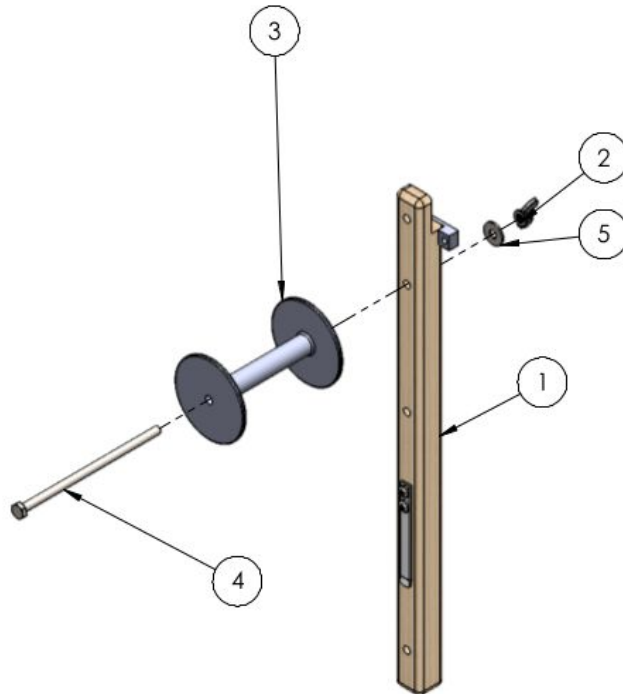

Figure 11 – Attach Spool to Spoke with clip
- 2) Bolt it in place from the front to the back and secure it with a flat washer and hex nut. Tighten with a 7/16" wrench.(Figure 11)
Spools (Use Hardware Pack #4 & Spool Bag) (Figures 11, 12, 13, 14)